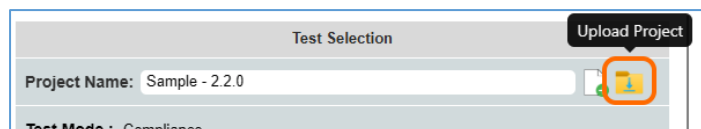

FIGURE 8.37: UPLOAD PROJECT— #1
- Click on the **Upload Project** icon as indicated in Figure 8.37 example below.